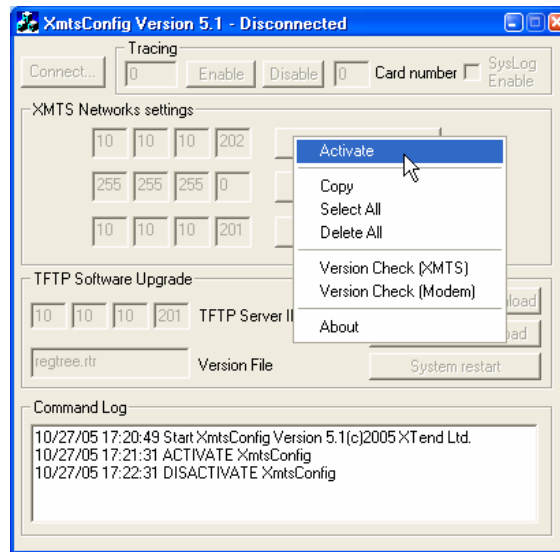

Figure 16: WMTS Configuration Tool
- Right-click to display a popup window from which you select **Activate** (see Figure 16).